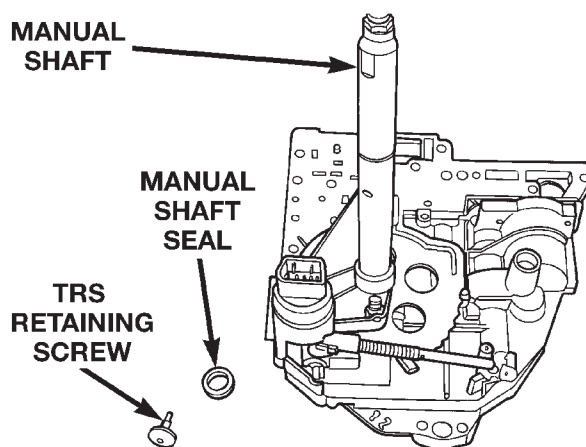

Fig. 27 Remove Manual Shaft Seal
- (13) Remove manual shaft seal (Fig. 27).